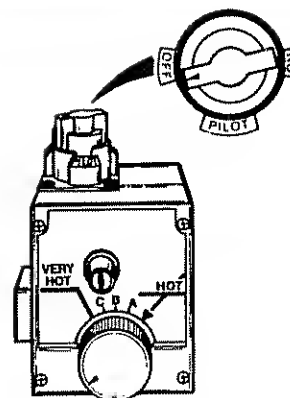
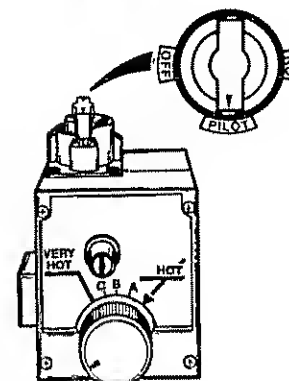

Figure 13
Figure 14
4. Turn gas control knob clockwise (↻) to "OFF" position. Knob cannot be turned from "PILOT" to "OFF" unless knob is depressed slightly. **DO NOT FORCE.** (Figure 13, page 21)
5. Wait five (5) minutes to clear out any gas. If you then smell gas, STOP! Follow "B" in the safety information above on this label. If you don't smell gas, go to the next step.
7. If you don't smell gas, turn knob on gas control counter clockwise (↺) to "PILOT" position. (Figure 14, page 21)
8. Push in control knob all the way and hold down. Immediately light the pilot with a match held by a match holder wire. Continue to hold control knob in for about one (1) minute after the pilot is lit. Release knob and it will pop back up. Pilot should remain lit. If it goes out, repeat steps 3 through 8.
to "OFF" and call your service technician or gas supplier. (Figure 13, page 21)
2. Turn gas control knob clockwise (↻) to "OFF" position. Knob cannot be turned from "PILOT" to "OFF" unless knob is depressed slightly. **DO NOT FORCE.** (Figure 13, page 21)